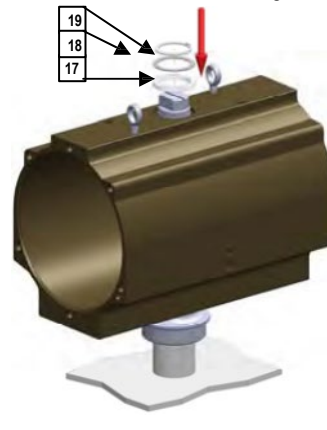

Fig. 21
4. Fit on the pinion (2) the spacer (17), the washer (18), the snap ring (19) (see Fig. 21).